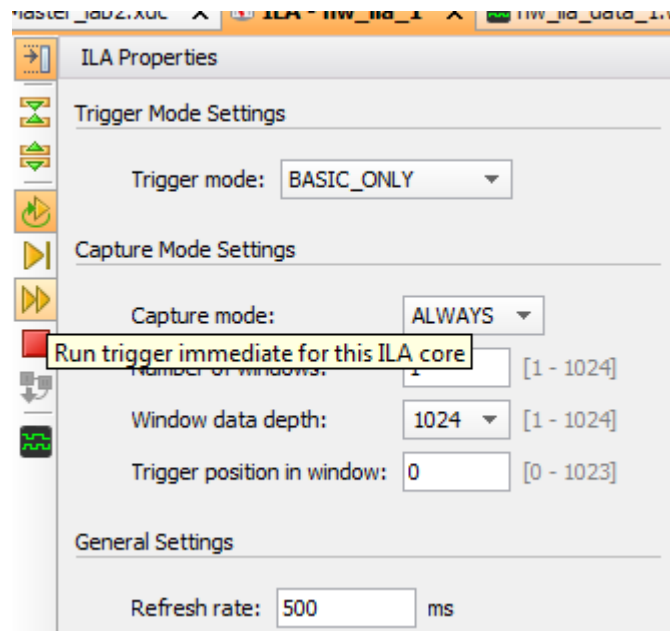
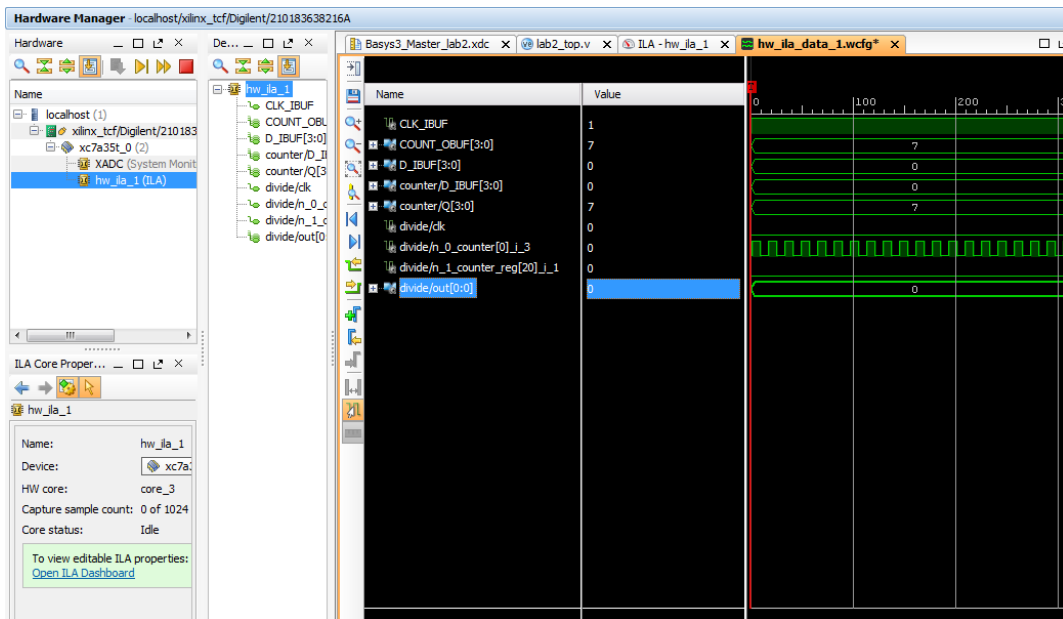

Figure 6. Run Trigger Immediate Button
Figure 7. Waveform Window
1. Click the Run Trigger Immediate button to trigger and capture data immediately as shown in figure 6.
2. In the waveform window, observe waveform activities. Click on Run Trigger again to update the waveform. Figure 7 shows an example waveform. *You can also toggle auto-retrigger button in figure 6 so it updates automatically.*